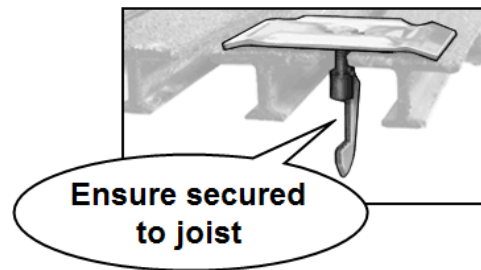

Figure 21 – Metal fastener for grating
2. Install the grating for the mid-section. Place the grating, grit side up and secure to the joists using metal fasteners provided in kit. See Figure 21.